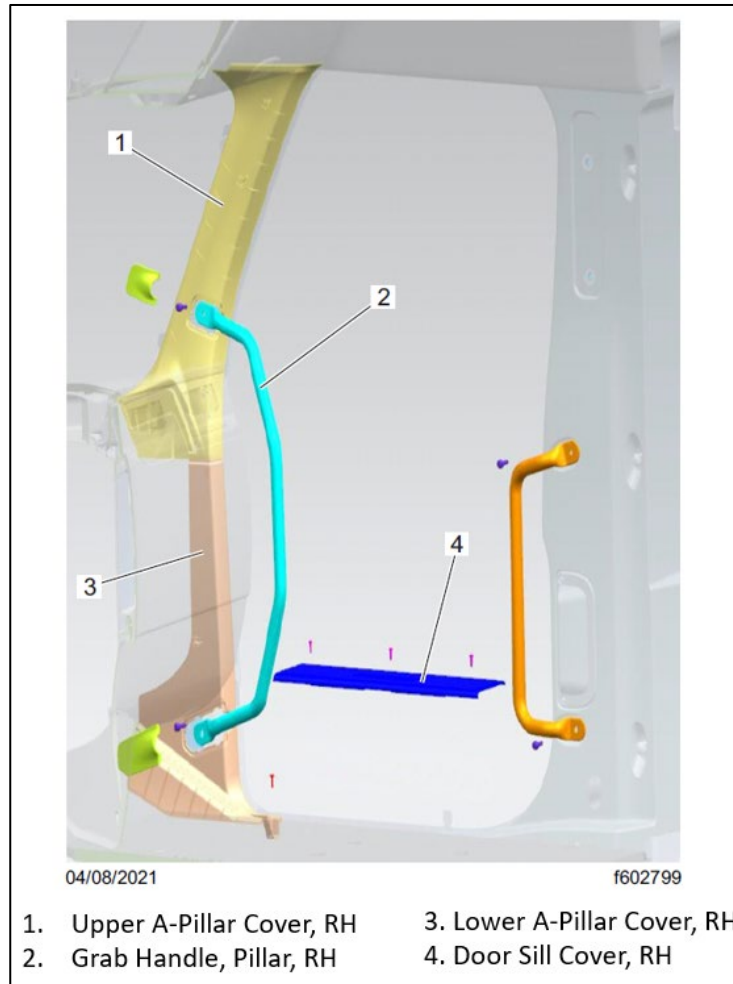

Fig. 33, A-Pillar Door Sill, Grab Handle, and Upper and Lower Cover Locations
21. Install the RH side upper and lower A-pillar covers. See Fig. 33. Tighten the fasteners 5 to 7 lbf.ft (6 to 9 N.m).
22. Install the RH side pillar grab handle. See Fig. 33. Tighten the fasteners 11 to 13 lbf.ft (14 to 18 N.m).
23. Install the RH side door sill cover. See Fig. 33. Tighten the fasteners 5 to 7 lbf.ft (6 to 9 N.m).